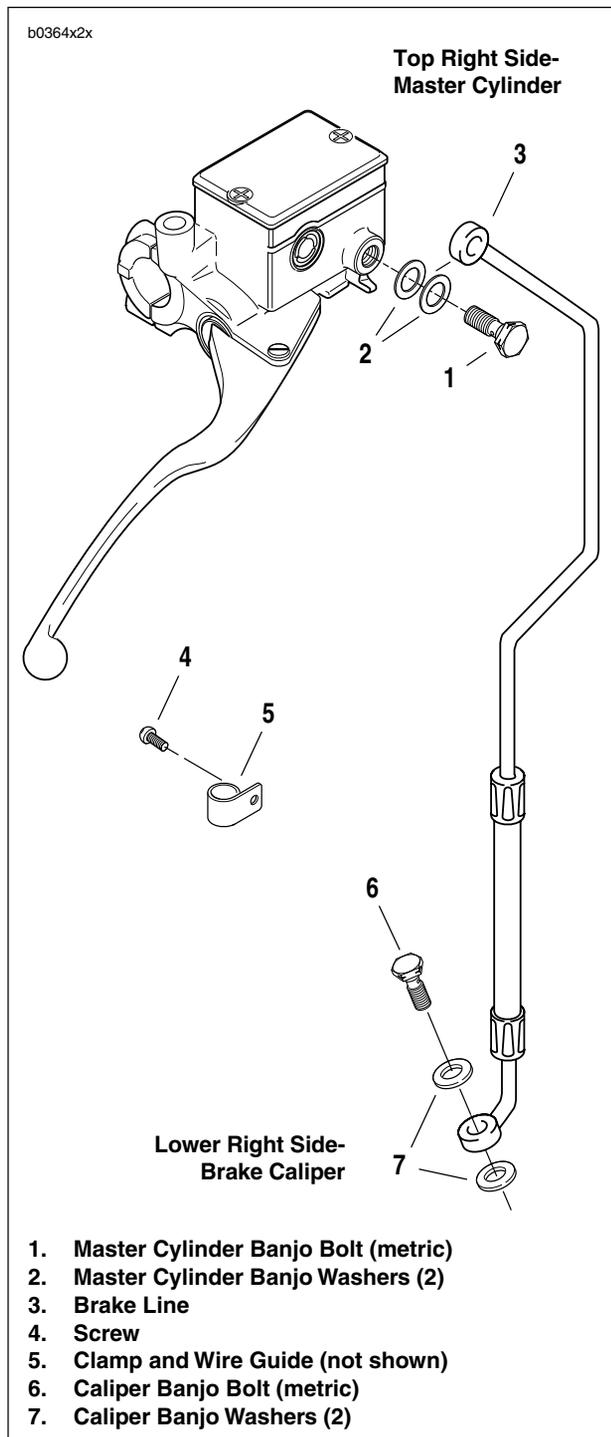

Figure 2-36. Front Brake Line
2. See Figure 2-36. Remove screw (4) to detach brake line clamp and wire guide (5) from right side of lower triple clamp.
1. See Figure 2-36. Connect brake line to master cylinder using two **new** banjo washers (2) and banjo bolt (1) (metric). Loosely install bolt into master cylinder.
3. See Figure 2-36. Connect brake line to caliper using two **new** banjo washers (7) and banjo bolt (6). Loosely install bolt into caliper.
5. See Figure 2-36. Tighten master cylinder banjo bolt (1) (metric) to 16-20 ft-lbs (22-27 Nm).
6. Tighten brake caliper banjo bolt (6) (metric) to 16-20 ft-lbs (22-27 Nm).